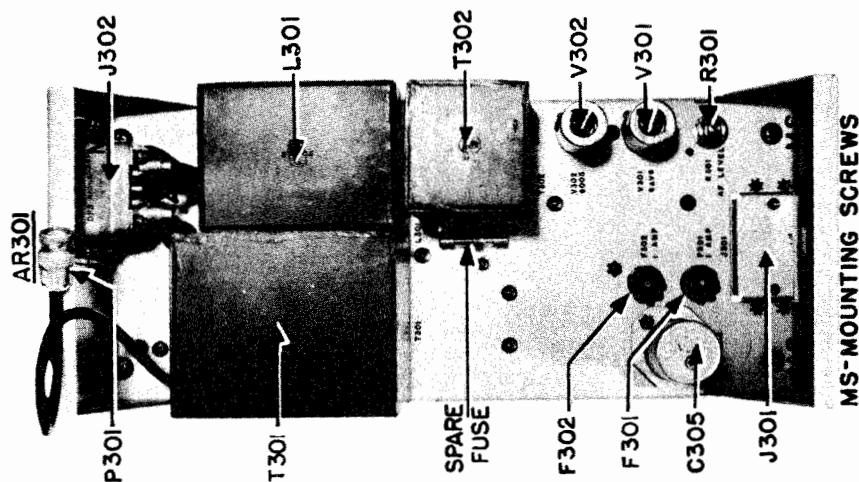

Figure 1-10. Audio-Power Supply Sub-Chassis, Top View
f. AUDIO/POWER SUPPLY SUB-CHASSIS ASSEMBLY.—This assembly is shown in figure 1-10. Three metal cased iron-core units occupy most of this sub-chassis. Mounted in back of the power and audio trans-